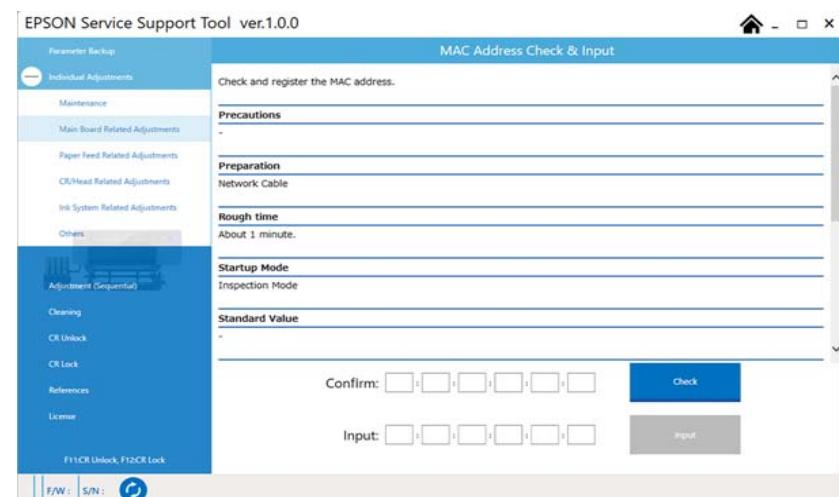

Figure 4-75.
- Refer to Figure 4-75 and enter the MAC address printed on the label affixed to the printer right inner side.